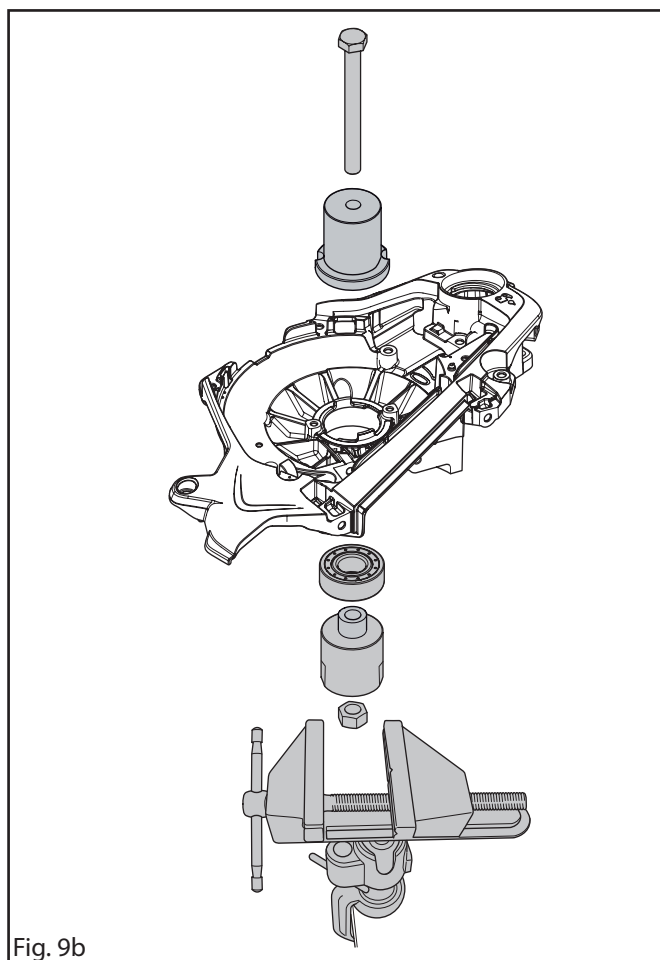

Fig. 9b
2. **Flywheel side:** Place Guide shaft (flywheel side, bottom) in a vice and place the bearing on top of the Guide shaft (flywheel side, bottom) with sealing upwards. Use Sleeve (clutch and flywheel side, top), screw and nut to fit the bearing on the flywheel side of the crankcase. See figure 9b and study the illustration carefully.